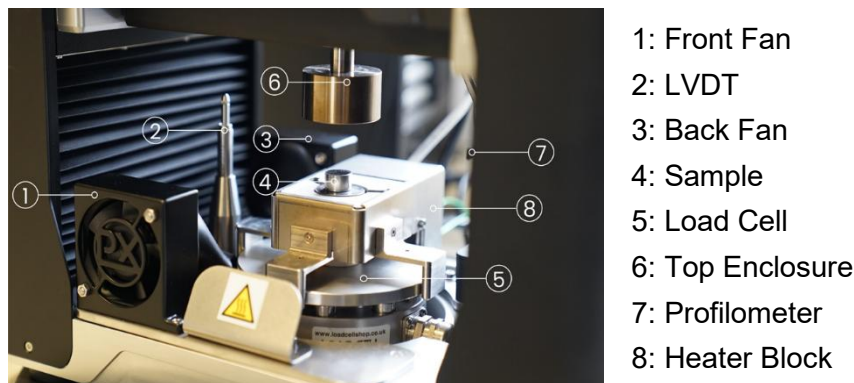

Figure 1.1 Key components of the PLX-Hotstage Module.
2. **PLX-HotStage Module:** the hardware required to run a controlled high temperature PIP test, shown in Figure 1.1. The module has 3 parts: the heater assembly, indenter, and peripherals (fans, LVDT and, terminal box). The heater assembly is concentric on the load cell but is not fixed upon it. The peripherals are fixed on the baseplate and the indenter is fixed to the crosshead. The indenter has a floating design to accommodate different sample sizes.